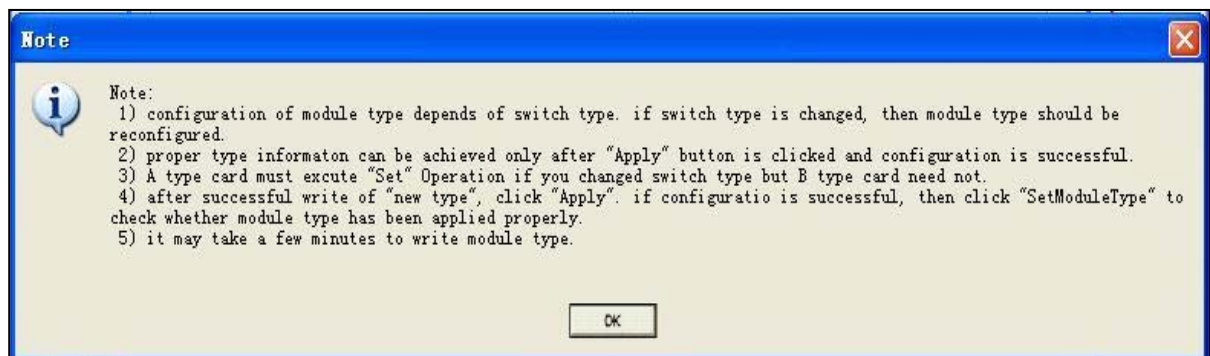

Figure 2-3
Step 3 : Now there pops up the dialog 'Note' as shown in Figure 2-3. Click the button 'OK' to enter the dialog box 'SetModuleType'.